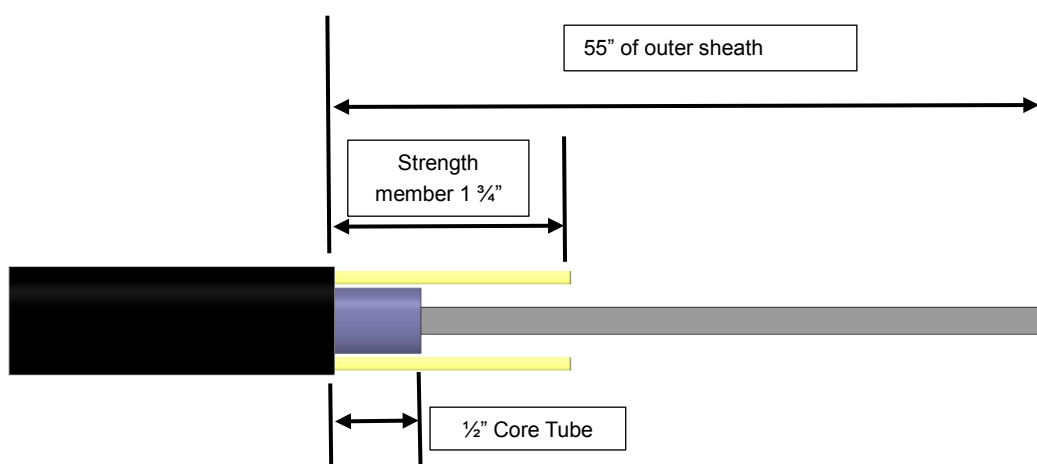

Figure 12
9.1.1 Preparation of Inline stub configuration ribbon central core tube, remove 55" of outer sheath from end of cable. See Figure 12.
9.1.2 Cut strength member(s) 1 3/4" from end of sheath opening. See Figure 12.
9.1.3 Remove core tube from ribbon leaving 1/2" core tube, measured from the cable sheath openings. See Figure 12.